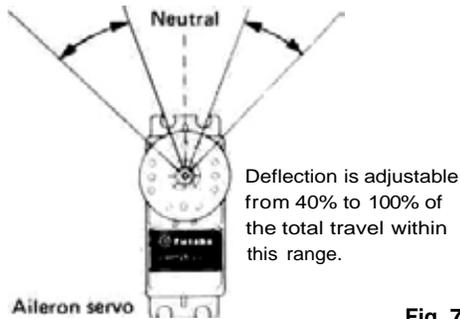
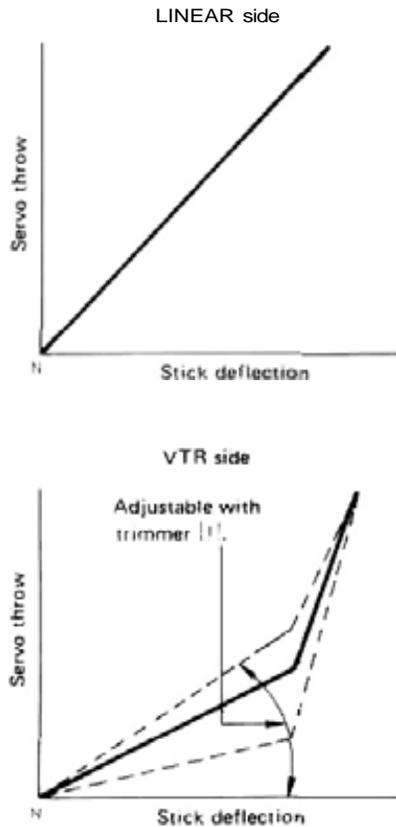

Fig. 7
Fig. 8
Aileron dual rate ON-OFF switch. When set to the pull position dual rate is turned on, and when set to the push position, dual rate is turned off. At dual ON, the deflection can be set as shown in Fig. 7 with the (1) aileron dual rate trimmer located on the trimmer panel at the back of the transmitter. At dual OFF, the operating linearity can be switched as shown in Fig. 8 with the (2) LINEAR-VTR switch also located on the trimmer panel.